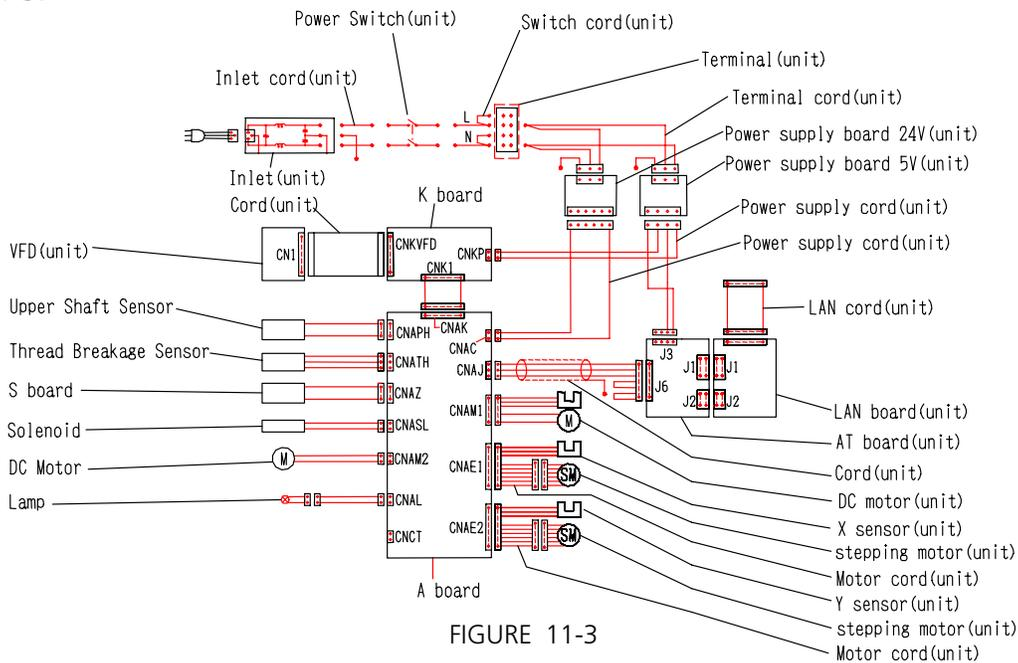

FIGURE 11-3
3. Connect connectors. Fig.11-3.